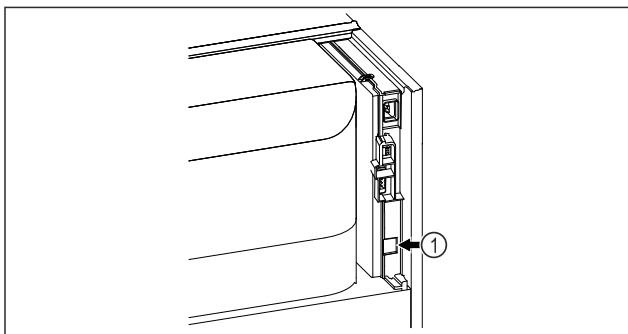

Fig. 179
- SmartModule Fig. 179 (1) is in use.